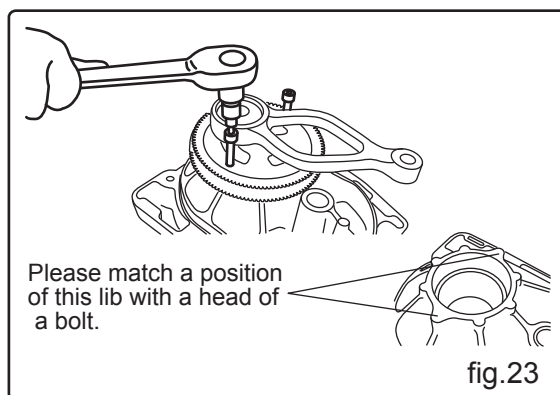

fig.23
H. Remove the crank gear by tightening 2 pcs M8x50 full threaded bolts (P/N:0091-10044) to threaded holes which installed in the crank gear evenly, after fitting position of the top end of bolts and the ribs of front cover which had three o'clock and nine o'clock positions. (fig.23)